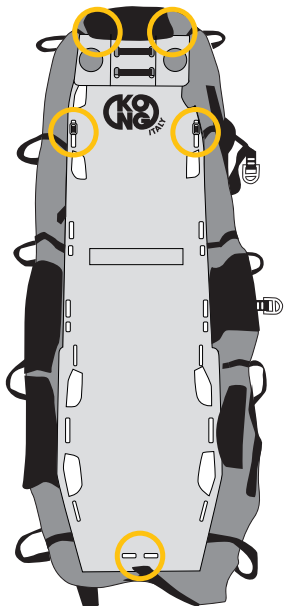

Fig.25
- fix the spinal board to the rescue bag by inserting the 6 buckles of the rescue bag into the slots of the spinal board, 4 of the upper “head-torso” section and 2 of the lower “legs” section (figs. 25, 26 and 27)